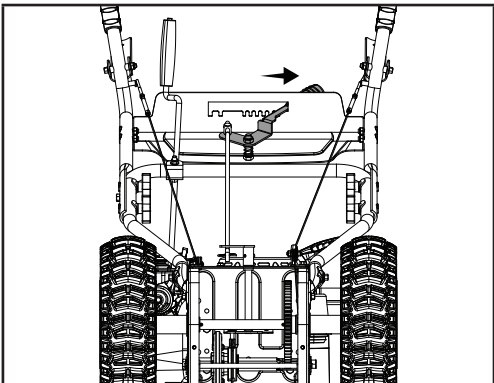
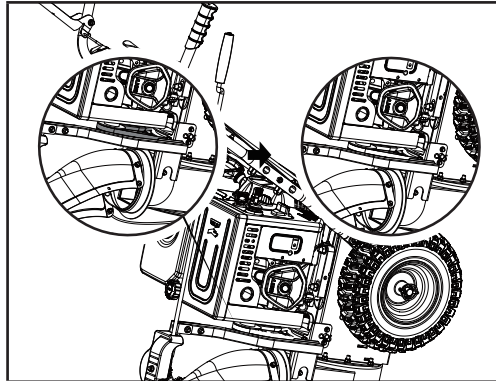

Figure 28A
Figure 28B
- Slide the speed adjusting handle to the right (Fig. 28A) and remove the loose belt by cutting it or any remaining belt pieces if the belt has already broken (Fig. 28B). If cutting the belt be careful of the tensioning pulley and arm as they are spring loaded and could cause injury when the belt is cut.